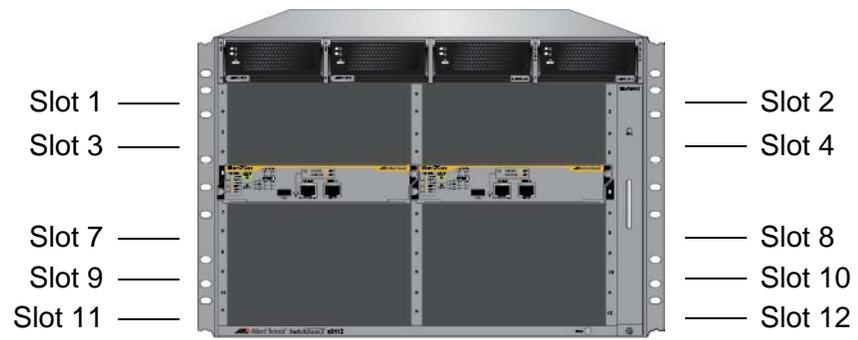

Figure 84. Slots 1 to 4 and 7 to 12 for the Ethernet Line Cards
1. Choose a slot in the chassis for the Ethernet line card. The Ethernet line cards can be installed in slots 1 to 4 and 7 to 12. The slots are shown in Figure 84.